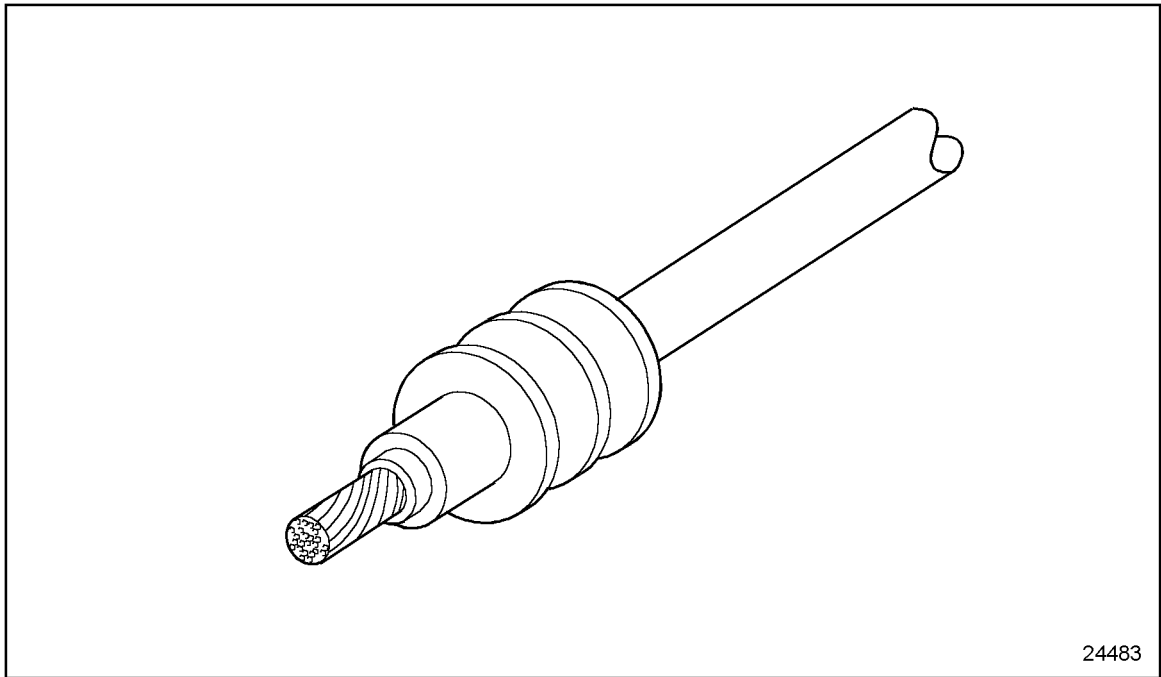

Figure 8-12 Proper Cable Seal Position
- Strip the end of the cable using strippers to leave 5.0 ± 0.5 mm (0.2 ± 0.02 in.) of bare conductor. Position cable seal as shown. See Figure 8-12.